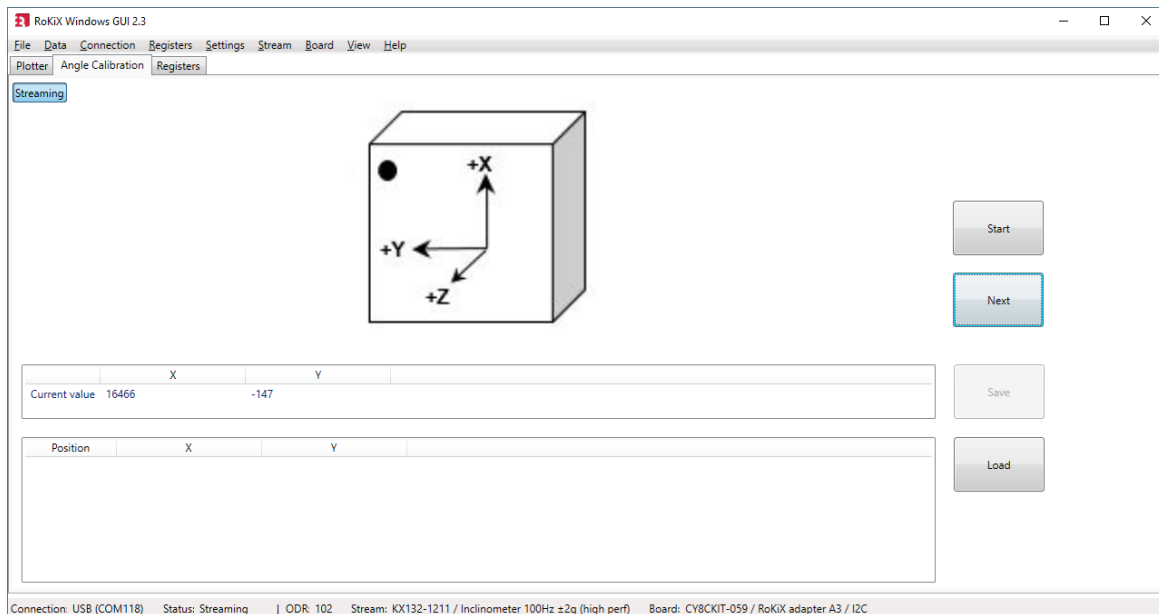

Figure 44. Angle Calibration. Position - 1
1. Put the device in the 1st calibration position as displayed in the orientation diagram (Figure 44).